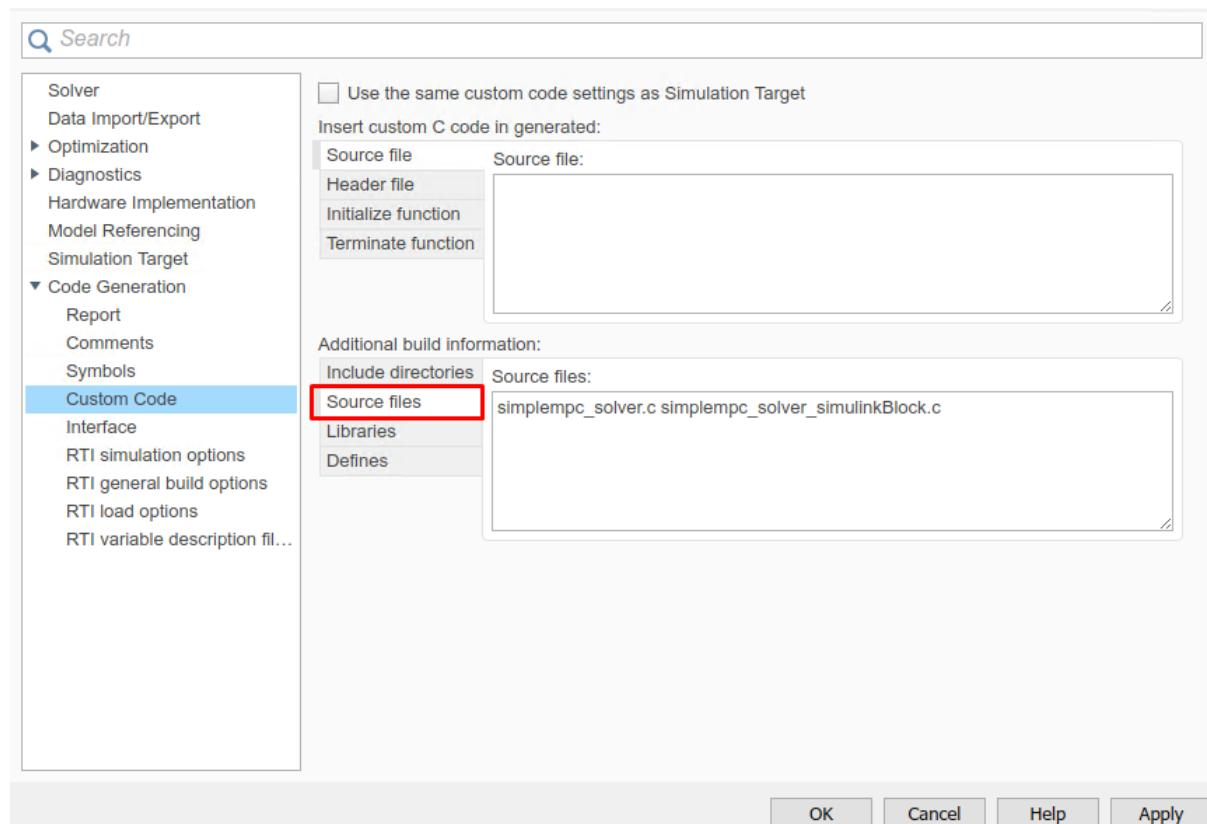

Figure 13.25: Add the source files used for the code generation.
- (Figure 13.25) In the “Code Generation/Custom Code” tab, add the source files: